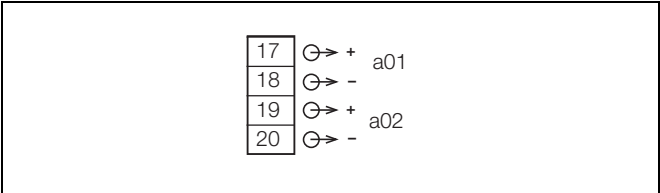

Fig. 5.14 Analog Output Connections
5.8.3 Analog Output Connections – Fig. 5.14